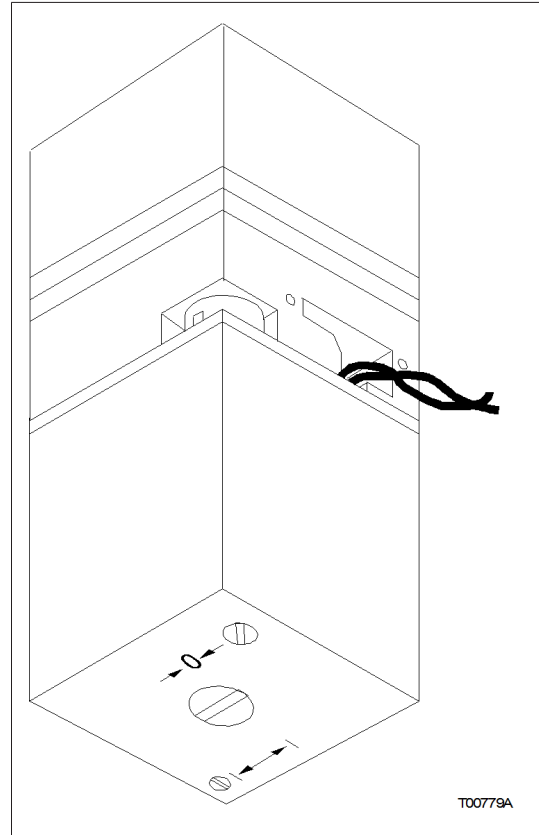

Figure 4-7. I/P Adjustment
4. Adjust the zero screw ($\rightarrow 0 \leftarrow$) on the bottom of the I/P converter (Fig. 4-7) until the output pressure equals 20.7 kPa (3.0 psig). Clockwise rotation increases pressure.
6. Adjust the span screw ($| \leftrightarrow |$) on the bottom of the I/P converter (Fig. 4-7) until the output pressure equals 103.4 kPa (15.0 psig). Clockwise rotation increases pressure.